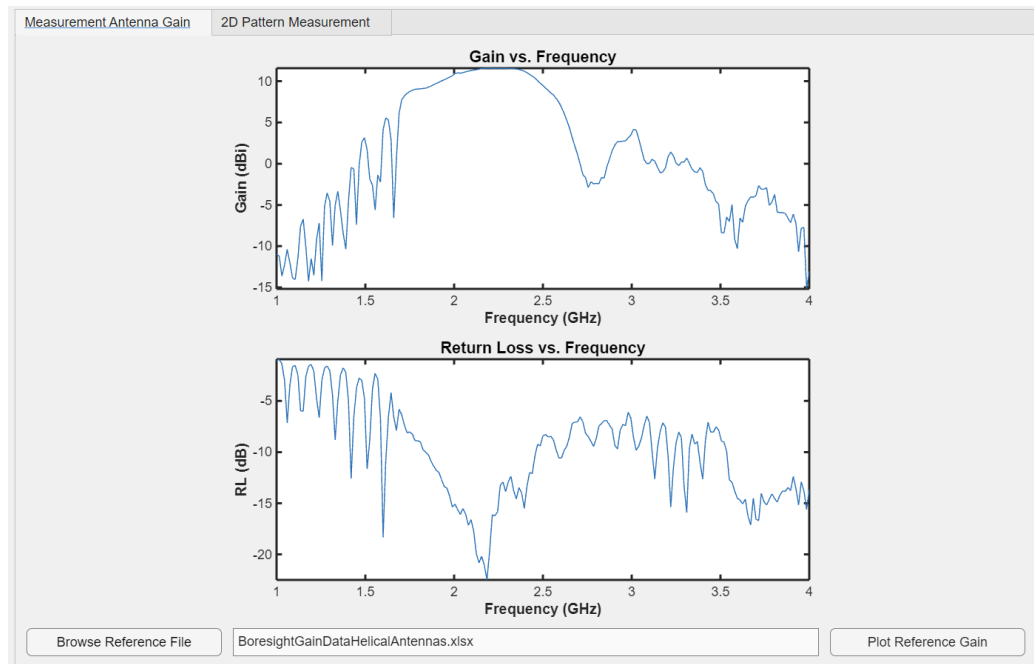

Figure 11: Example Reference File Successfully Uploaded and Plotted
2. To visualize the reference gain data, click the **Plot Reference Gain Button** next to the file path field. This plots the gain vs. frequency, and the return loss data, as shown in **Figure 11**.